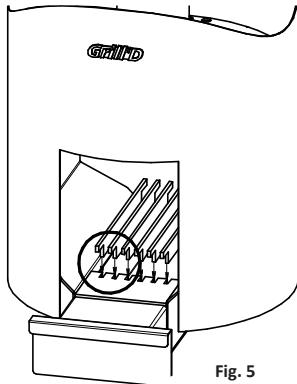

Fig. 5
All heaters can be optionally equipped with special reinforcing devices (refer to Figure 8) that enhance combustion and additionally protect the heater firebox from destruction due to exposure to high temperature. The devices have ducts for supplying additional combustion air, and when it enters the firebox, the air passes partially above the fire into its upper part, where post-combustion of flue gases occurs. Additional heat is generated during this process, thus enhancing the heater's efficiency. There is a grate at the bottom of the heater (refer to Figure 5), it is fabricated of high duty rolled steel with a thickness of 5 mm. The grate is one of the most thermally loaded parts of the heater, and the metal used for its fabrication meets all the specified requirements. Grill'D heater firebox door (5) is fabricated of steel and Schott Robax® thermal glass (Germany).
The grate consists of 6 separate plates fabricated of high duty rolled steel with a thickness of 5 mm. A separate seat is provided for each plate (Figure 5).